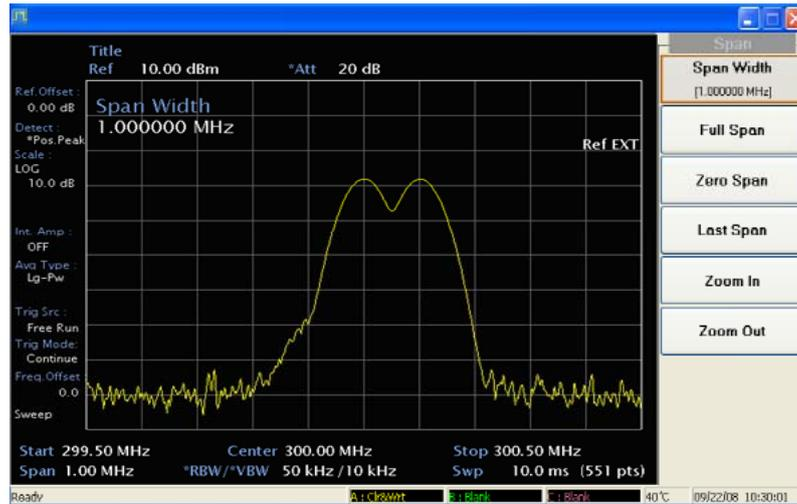

Fig. A-3 Resolving signals of equal amplitude
Generally, to resolve two signals of equal amplitude, the resolution bandwidth must be less than or equal to the frequency separation of the two signals. If the bandwidth is equal to the separation and the video bandwidth is less than the resolution bandwidth, a dip of approximately 3 dB is seen between the peaks of the two equal signals, and it is clear that more than one signal is present. See Fig. A-3.
- 4 Since the resolution bandwidth must be less than or equal to the frequency separation of the two signals, a resolution bandwidth of 50 kHz must be used. Change the resolution bandwidth to 50 kHz by setting [RBW] 50 kHz. Two signals are now visible as shown in Fig. A-3. Use the knob or step keys to further reduce the resolution bandwidth and better resolve the signals.